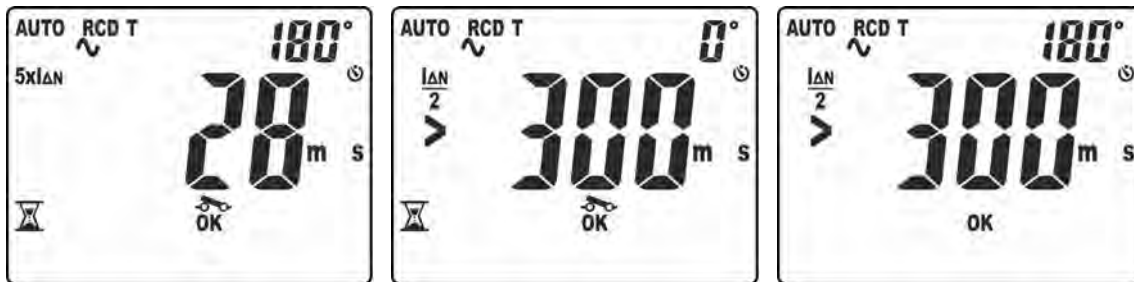

Fig. 33: Tripping time in AUTO mode – Screen 2
13. The fourth test carried out is the one with test current  $5xI_{\Delta n}$  and polarity  $180^\circ$ . The result of partial measurement is shown on the display with indication “OK” or “NOT OK” (see Fig. 33 – right side). Symbol “” flashing indicates that the RCD must be reset.
14. The fifth test carried out is the one with test current  $\frac{1}{2}I_{\Delta n}$  and polarity  $0^\circ$ . The result of partial measurement is shown on the display with indication “OK” or “NOT OK” (see Fig. 33 – middle). Message “>300ms” indicates that the full scale of the instrument has been reached, to indicate that the RCD correctly did not trip in this situation. Symbol “” flashing indicates that the RCD must be reset.
15. The sixth and last test carried out is the one with test current  $\frac{1}{2}I_{\Delta n}$  and polarity  $180^\circ$ . The result of partial measurement is shown on the display (see Fig. 33 – right side). Message “>300ms” indicates that the full scale of the instrument has been reached, to indicate that the RCD correctly did not trip in this situation. Indication “OK” or “NOT OK” indicates in this case also the final result of the test